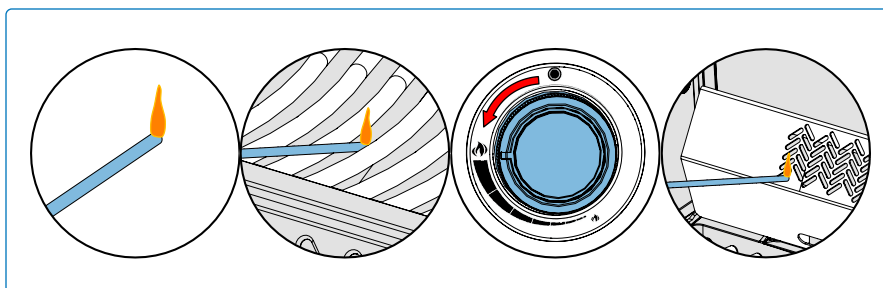

Fig. 8
3. While turning the corresponding burner knob to high. **(Fig. 8).**